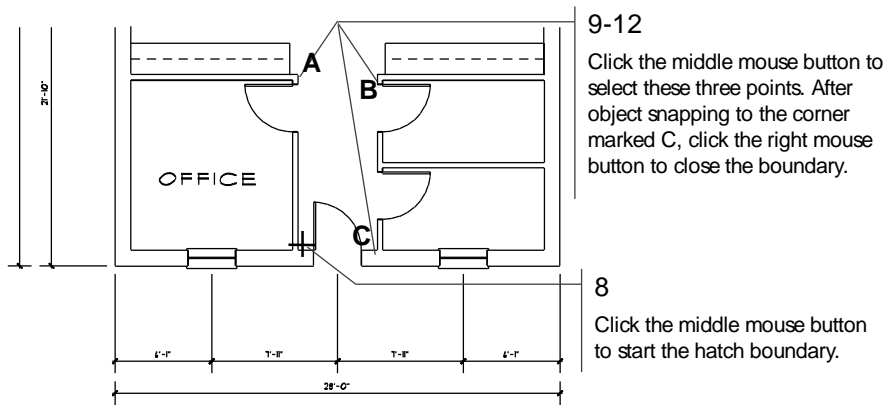

Figure 4.17: Selecting a hatch boundary
9. Move the cursor upward and click the middle mouse button to object snap to the corner marked A with. (See Figure 4.17)